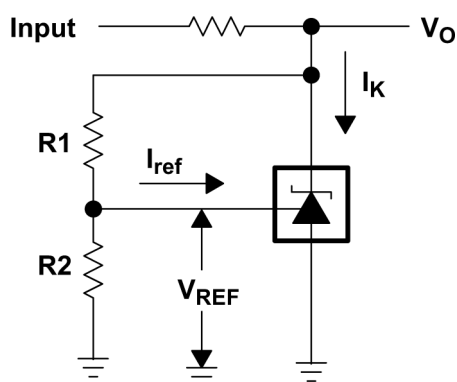

Figure 6-2. Test Circuit for $v_{KA} > V_{REF}$, $V_O = V_{KA} = V_{REF} \times (1 + R1/R2) + I_{ref} \times R1$
(3) The dynamic impedance is defined as $|z_{ka}| = \frac{\Delta V_{KA}}{\Delta I_K}$. When the device is operating with two external resistors (see Figure 6-2), the
- (3) Full temperature ranges are -40°C to 125°C for TLV431Q, -40°C to 85°C for TLV431I, and 0°C to 70°C for TLV431C.
- (4) dynamic impedance is defined as $|z_{ka}| = \frac{\Delta V_{KA}}{\Delta I_K}$. When the device is operating with two external resistors (see Figure 6-2), the total